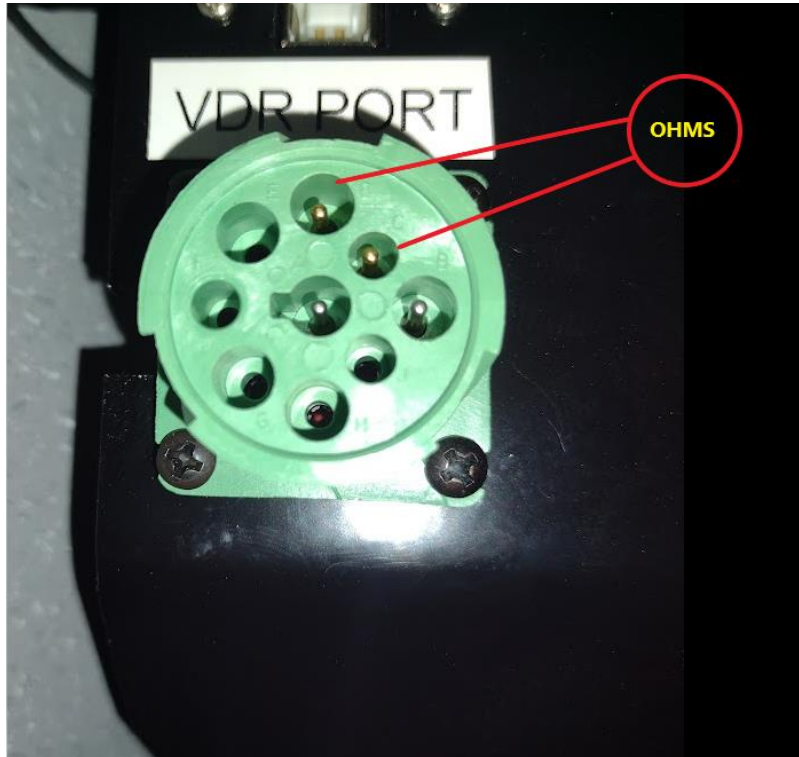

Figure 3.1
2. With the master and ignition switches turned off, use a DVOM (Digital Volt Ohm Meter) to measure the resistance between pins C & D. See *Figure 3.1*
8. Check resistance again between pins C & D of the diagnostic connector as shown in Figure 3.1 to confirm SDPT module is the issue.